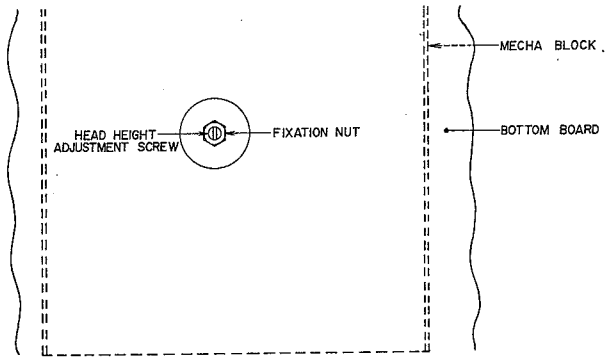

Fig. 7 Head Height Adjustment
2. COMBINATION HEAD HEIGHT ADJUSTMENT (Refer to Fig. 7)